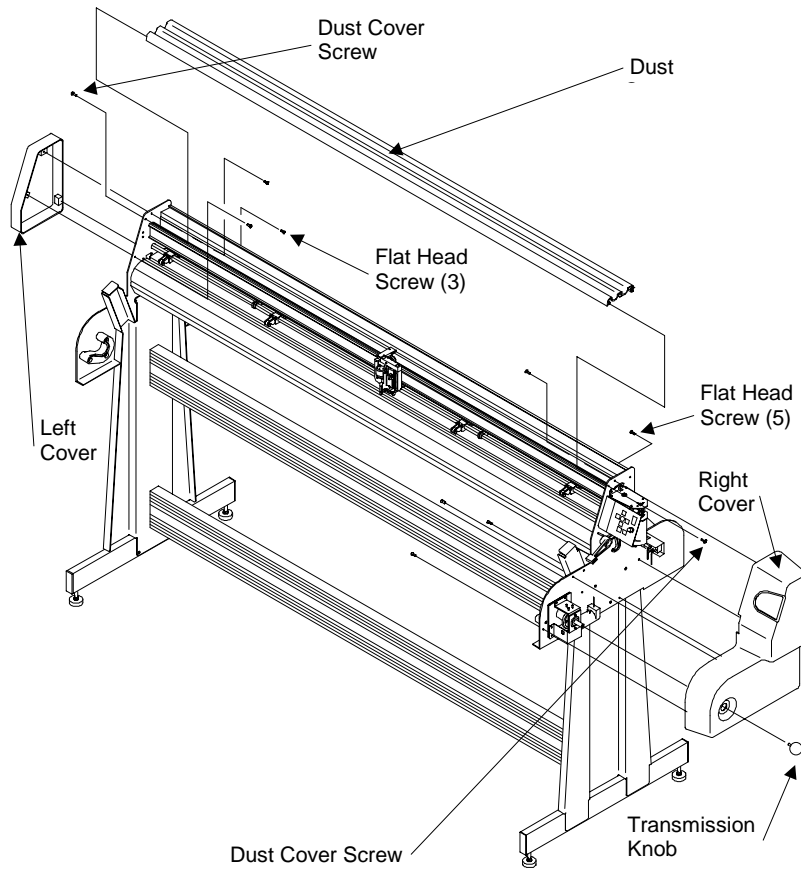

Figure 24. Removing the End Covers and the Dust Cover
4. Use a screw driver to remove the two dust cover screws, one from each end of the Summit 910. Make sure you remove only the two dust cover screws (refer to Figures 24 through 26).